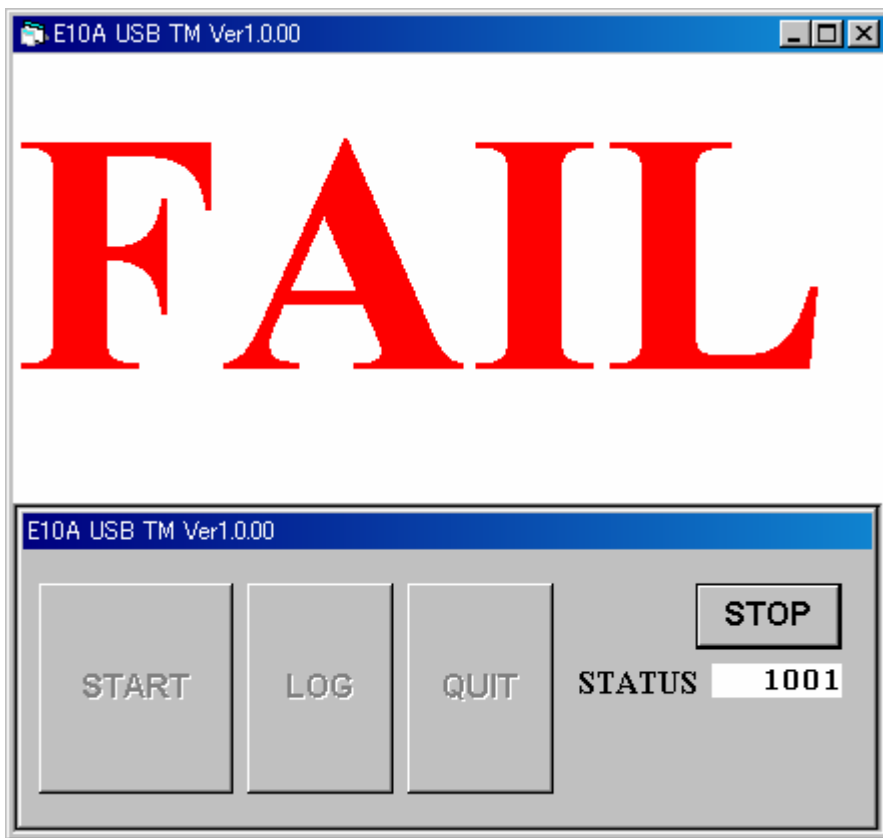

Figure 12 Status Number 1001 (Example)
- (4) If the message “FLASH MEMORY TEST is failed” is displayed and the error status is 1001 as shown in figures 12 and 13, the E10A-USB emulator test program or the E10A-USB emulator firmware may be an old version. Go to the above listed website’s download area and download updates for the E10A-USB emulator firmware and/or the E10A-USB emulator test program. For the method to update the E10A-USB emulator firmware, refer to section 3.10, Setting up the Emulator, in the Debugger Part of the E10A-USB Emulator User’s Manual.